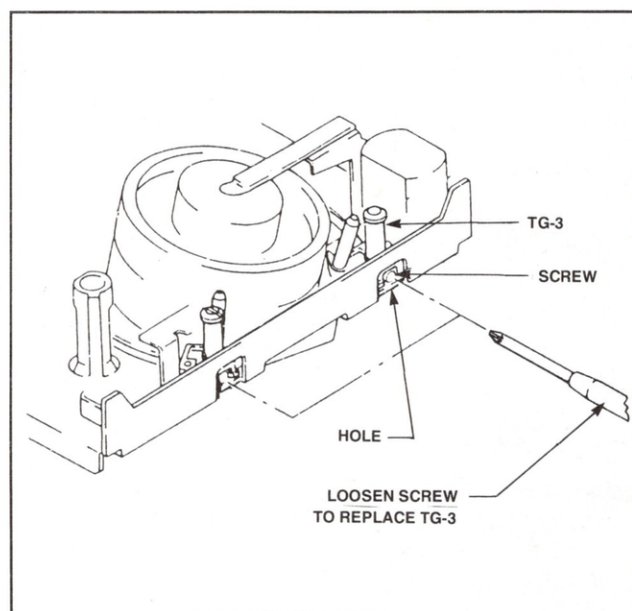

Figure 4
2. Replace TG3 guide roller assembly as shown in Figure 4.